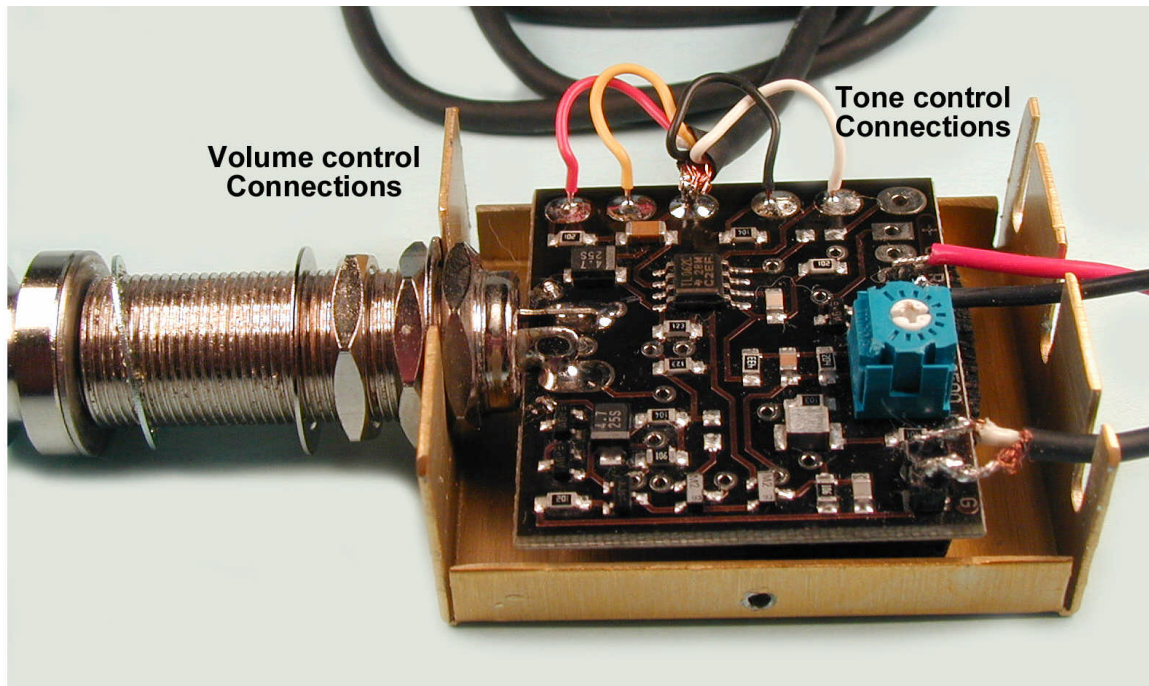

Figure 3 - Wiring up the PCB
6. Wire the other end of the cable to the preamp. Refer to Fig.3.